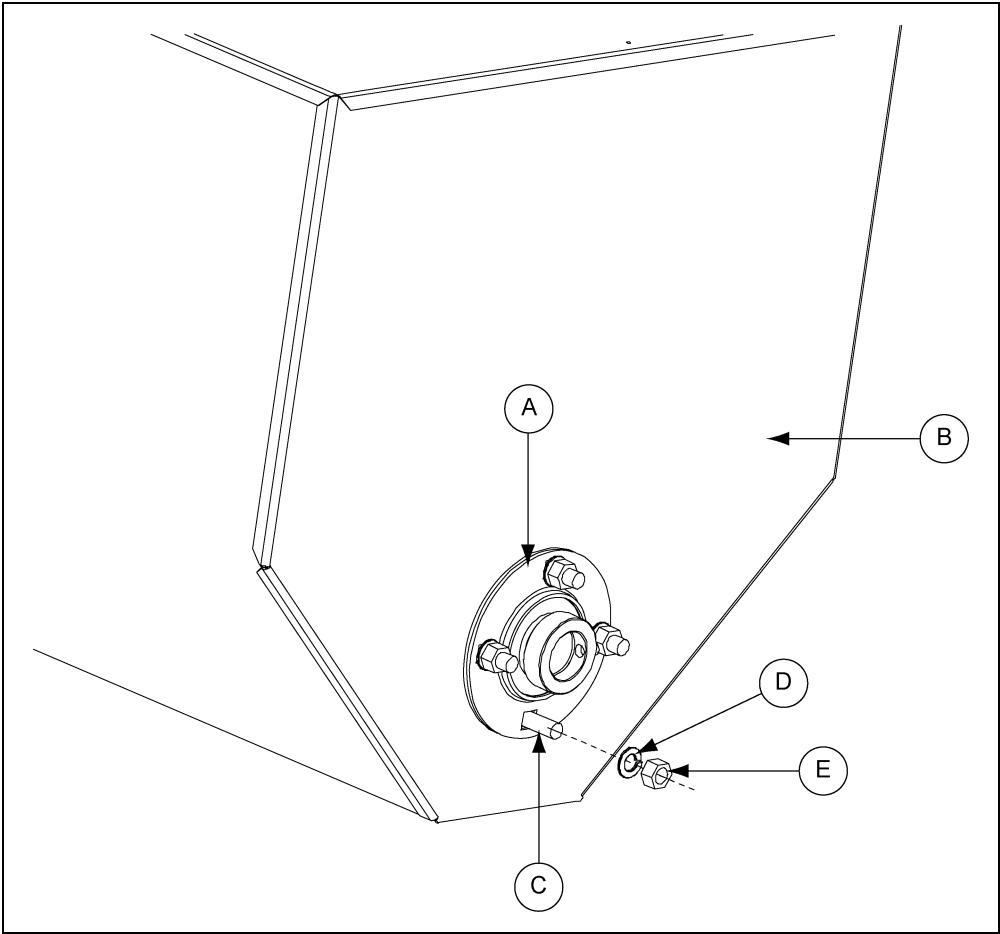

Figure 4W
3. Next bolt the bearing (A) with flangette to the studs (C) on the hopper (B) using the required lock washer (D) and nut (E). (See Chart below and Figure 4W.)